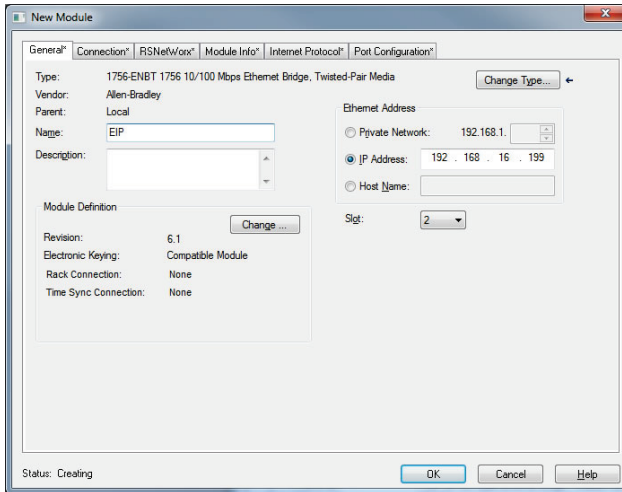

Figure 42: Identifying the New Module
6) The “New Module” window will open. Refer to Figure 42.